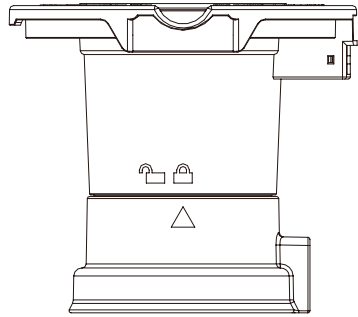

Figure 2
2. Take out the capsule and clean the capsule box in water. Rotate the flow guide cover off the capsule box, rotate the "▲" from the corresponding lock icon  to the unlock icon , then remove the flow guide cover for easy cleaning. After the cleaning is completed, the reverse assembly can be used (Figure 2).